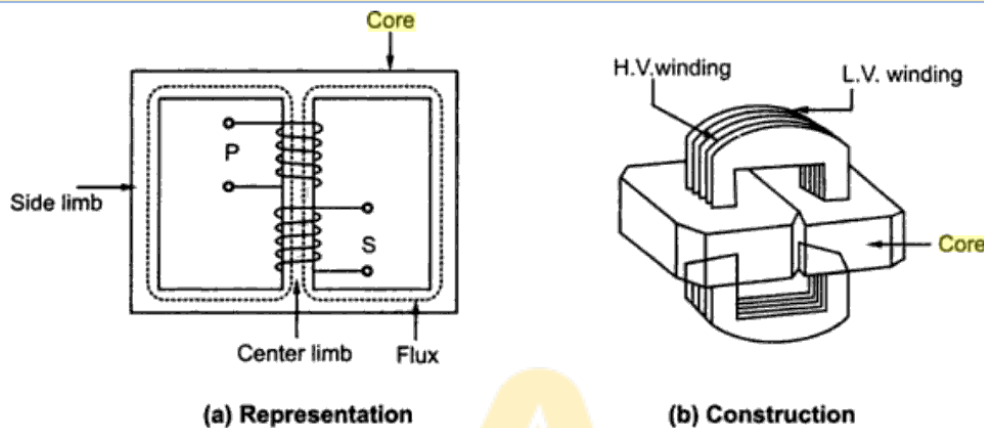

Fig 3.4.2 Shell Type Transformer
- Fig 3.4.2(a) shows the schematic representation of the shell type transformer while 3.4.2(b) shows the view of actual construction of the shell type transformer